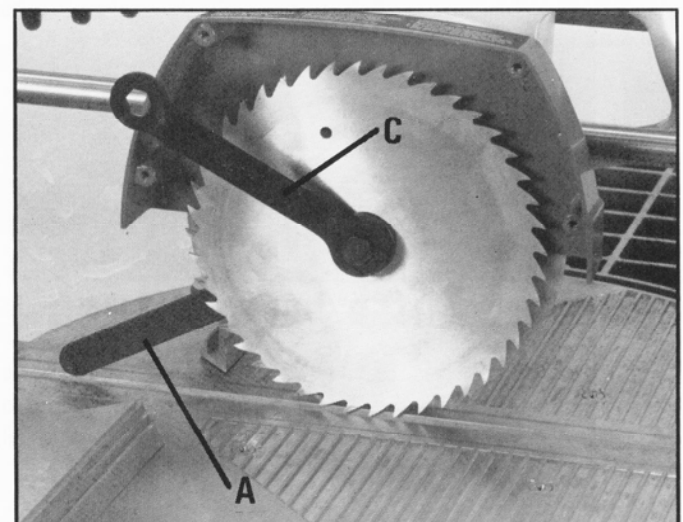

Fig. 55
8. Insert end of wrench (A) Fig. 55, between the blade and inside guard and onto the flats of the inside blade flange. Rest other end of wrench (A) on table top as shown in Fig. 55, and tighten blade screw by turning screw counterclockwise with wrench (C).